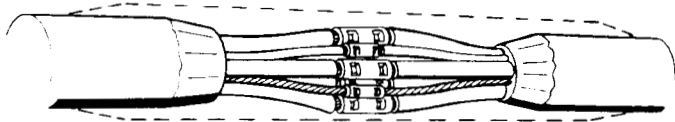

**Figure 7**
2. Wrap on spacer web collar(s); build *EQUAL DIAMETERS* to 1 layer greater than repair or cable diameter, whichever is largest. (Figure 7) *Locate and install collars according to INSTRUCTION 2, FIGURES 3 & 4, PAGES 4-5*.